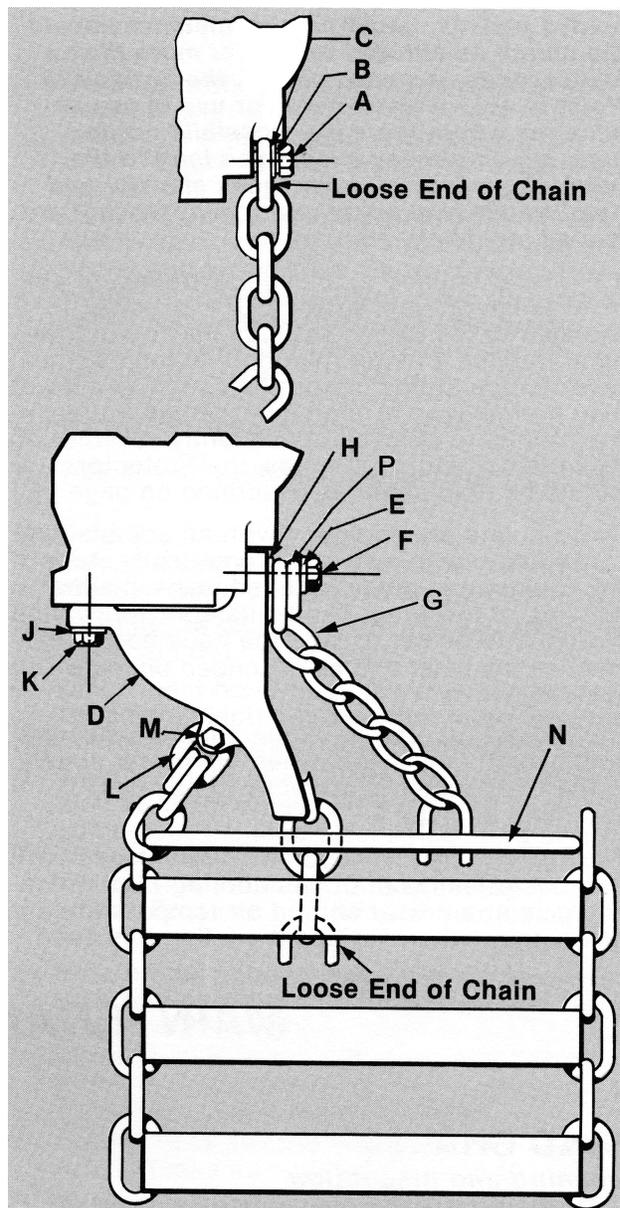

Figure 2. Chain Container Installation
Remove loose end screw (A), lockwasher (B) and plain washer (C) from hoist. These items are not required for installation of chain container. See Figure 2.